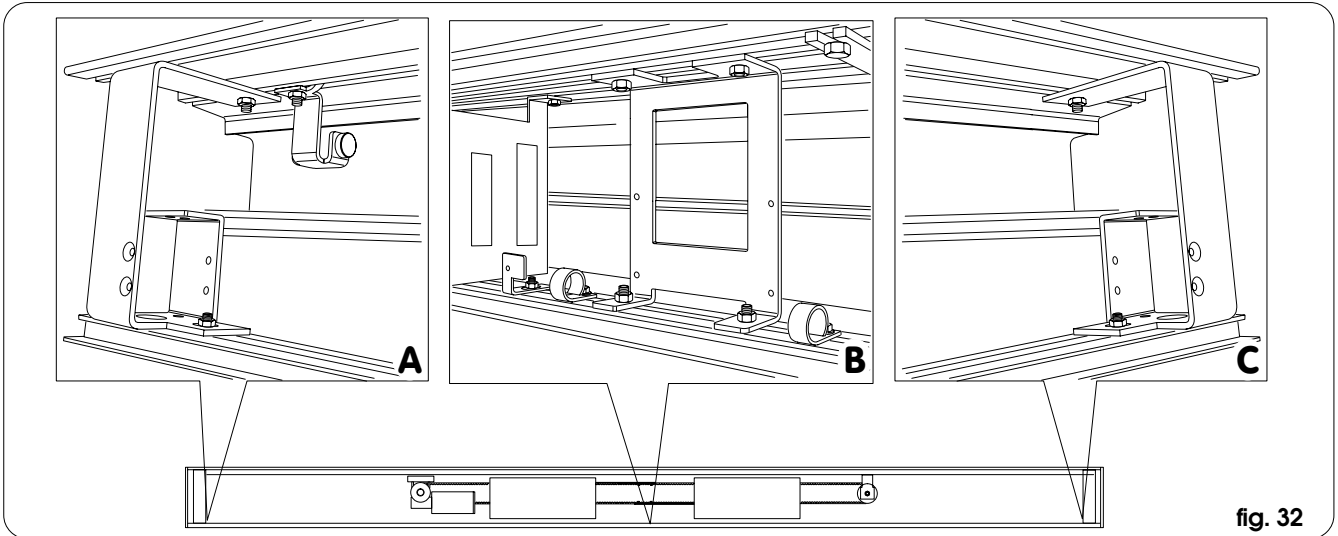

fig. 32
- the two side brackets of fig. 32 A and C (1 M6 screw for each);
- the two cable guide eye-bolts sideways on the central bracket as shown in fig. 32 ref. B or on the lock if present (1 M5 screw for each).